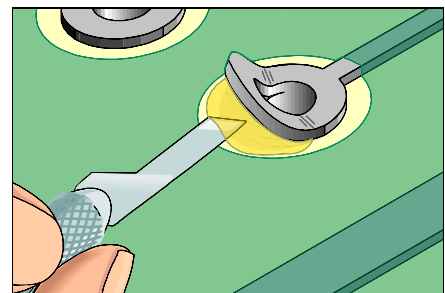

Figure 1: Carefully apply a small amount of epoxy under the entire length of the lifted land.
4. Carefully apply a small amount of epoxy under the entire length of the lifted land. The tip of the knife or Scraper may be used to apply the epoxy. (See Figure 1).